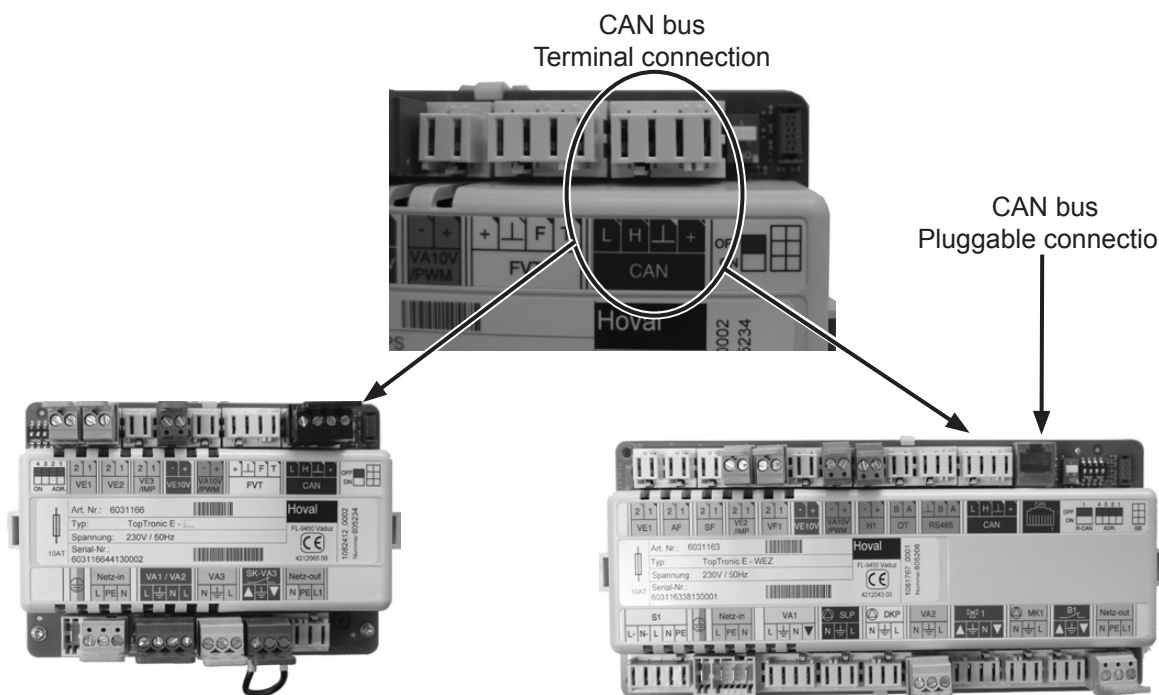

fig. 08
3. Connect the Hoval CAN bus to a basic or controller module (fig. 08) according to chapter 2.3.2